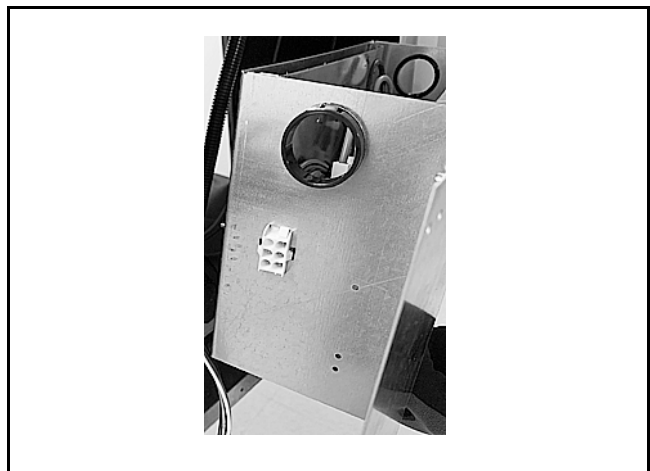

Fig. 23 J39 Connector
3. Line up the J39 Connector and insert it into the mounting slot. Fig. 23 shows connection slot for left-hand configuration.